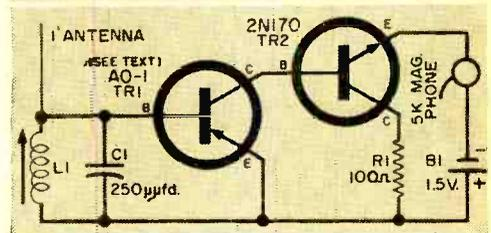

Fig. 3. Hugh Van Horn's two-transistor receiver. It is shown above assembled in a small plastic box.
**Simple Receiver.** Direct-coupling techniques seem to be growing in popularity among experimenters, for Hugh Van Horn, of 3096 Chadbourne Rd., Shaker Heights, Ohio, has sent us a simple two-transistor receiver circuit which uses direct coupling between stages (Fig. 3).